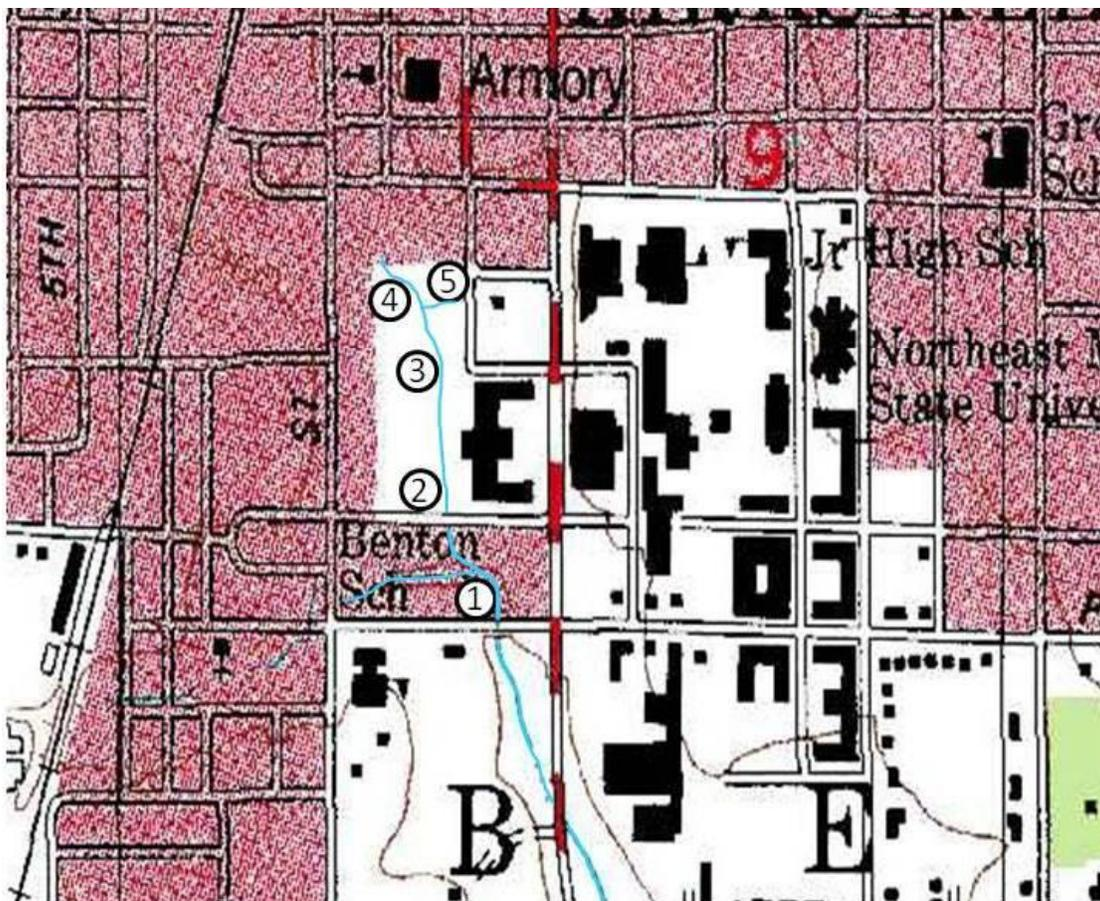

Figure 1. Map of the immediate area surrounding Bear Creek's source.⁵ The approximate locations of the five sampling sites are shown.
The area immediate area around Bear Creek and the sampling sites are shown in Fig. 1. The five sampling sites are: (1) north side of Patterson Street culvert, (2) north side of Randolph Street culvert, (3) bridge on walkway that runs between the Truman State Student Recreation Center and Centennial Hall, (4a) West Campus Suites Culvert, northwest side, (4b) West Campus Suites Culvert, northeast side, and (5) outflow on the west side of the Truman Student Recreation Center. These sites were chosen for their accessibility and their proximity to potential sources of pollution.